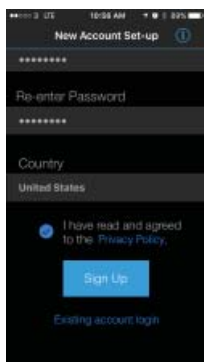

Fig. 2.6b
- You have to agree to the 'Privacy Policy' statement before being allowed to sign up (Fig. 2.6b)